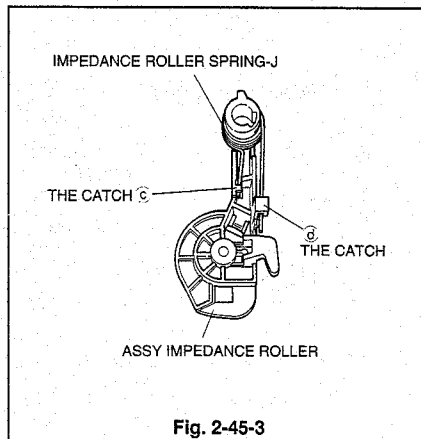

Fig. 2-45-3
- ② Hook the one side of the IMPEDANCE ROLLER SPRING-J to the catch ㉓ and the other side to the catch ㉔ to install the IMPEDANCE ROLLER SPRING-J on the ASSY IMPEDANCE ROLLER. [Fig. 2-45-3]
- ③ Install the ASSY IMPEDANCE ROLLER, to which the IMPEDANCE ROLLER SPRING-J is attached, on the HOLDER TG.